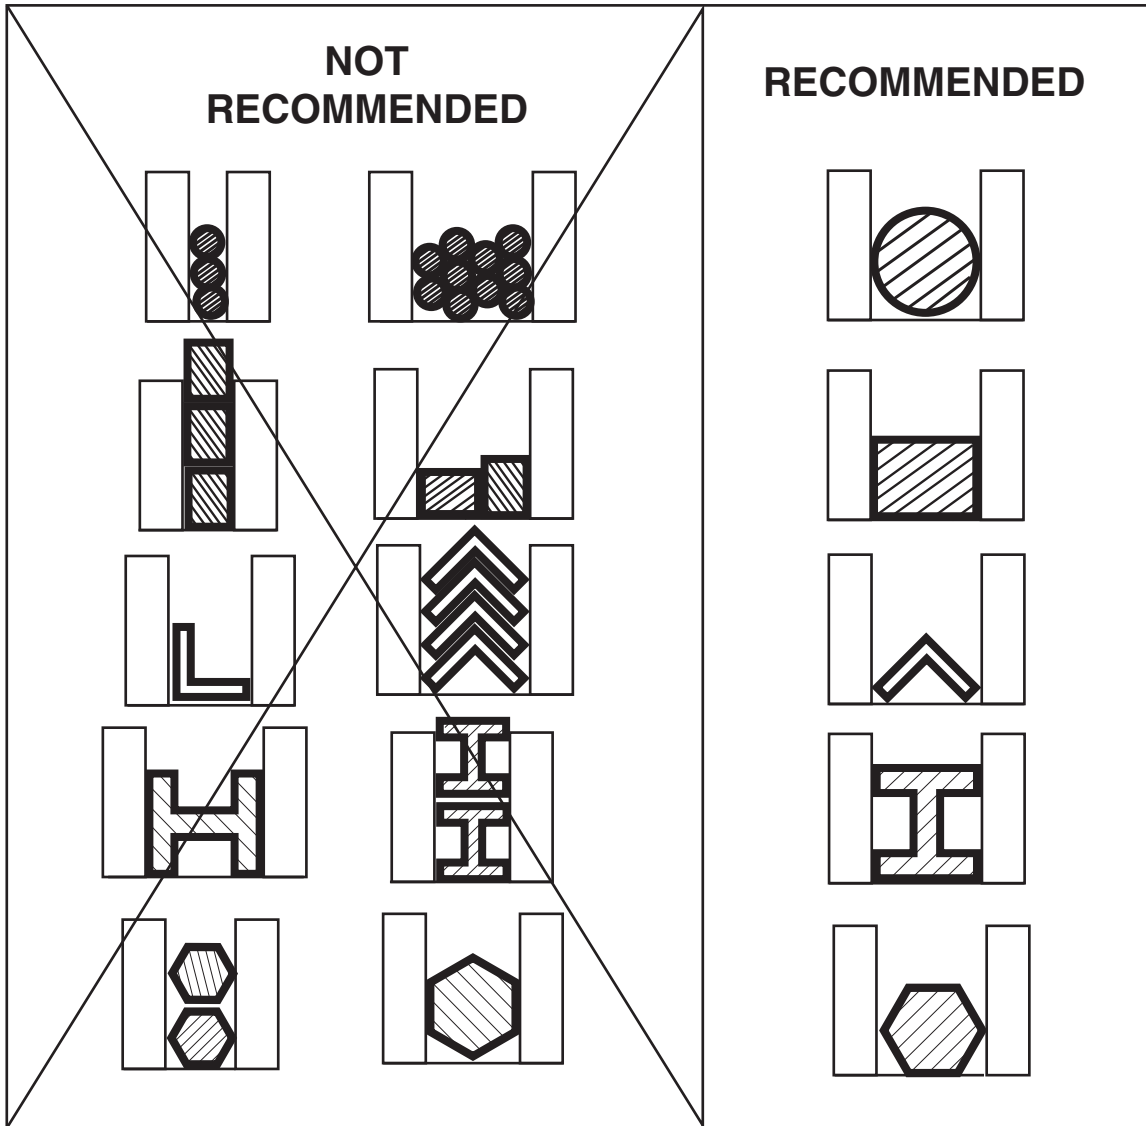

Figure 17. Vise clamping options.
5. Use the chart shown in **Figure 17** as a guide to quickly position the workpiece between the vise jaws correctly and to avoid slipping during a cut. **DO NOT CUT STEEL THAT IS STACKED OR BUNDLED.** One or more workpieces will slip and damage the saw blade.